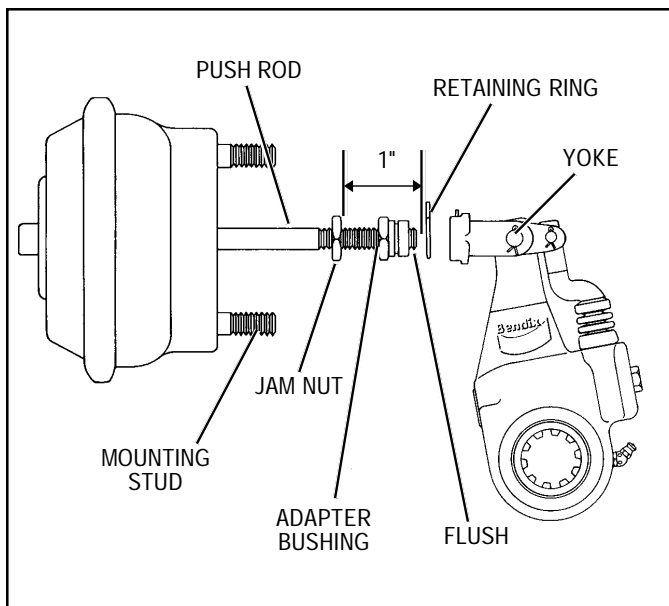

FIGURE 4 - QUICK-CONNECT YOKE ASSEMBLY
The adapter bushing in this case is threaded internally to match the push rod, but is designed to slide into the yoke. A retainer ring is used to secure the adapter bushing in the yoke. (Refer to Figure 4)
4. If the ASA-5 has the quick connect yoke (see Figure 4), position the brake actuator push rod jam nut approximately 1 inch from the end of the brake actuator push rod. Thread the quick connect adapter bushing on the brake actuator push rod until it is flush with the end of the brake actuator push rod. Install the retaining ring on the adapter bushing, making certain it is in the adapter bushing groove. Turn the ASA-5 manual adjustment hex clockwise until the adapter bushing begins to enter the yoke. Fully compress the retaining ring "legs" and continue turning the ASA-5 manual adjustment hex until the adapter bushing is completely in the yoke.
2. If the ASA-5 is equipped with the quick-connect yoke assembly illustrated in Figure 4: